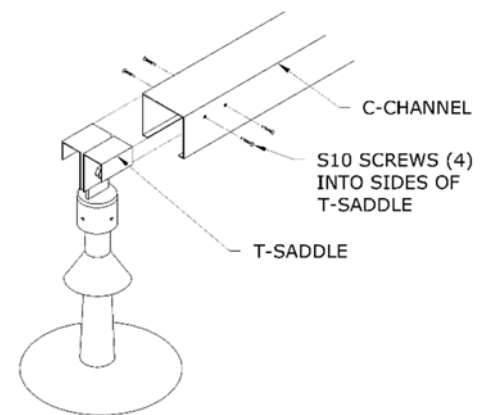

FIGURE 7
First install the C-Channels in the “SPAN” direction. As shown in Figure 7, the C-Channels fasten to the T-Saddles with (4) Tek Screws, P/N S10. The C-Channels should cantilever past each post at least two inches, or as specified in the shop drawings (if applicable).